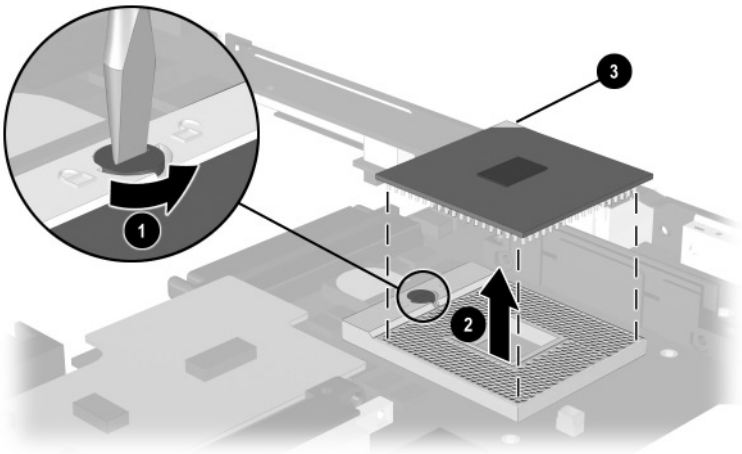

Figure 5-36. Removing the Processor
4. Turn the screwdriver counterclockwise ① to release the processor (Figure 5-36).
5. Remove the processor from the socket on the system board ②.